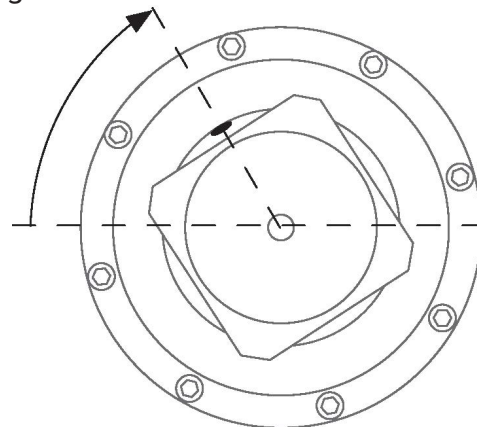

Figure 11
2. Rotate the unit until the oil fill hole is sitting between 60° and 70° from horizontal. See Figure 11.